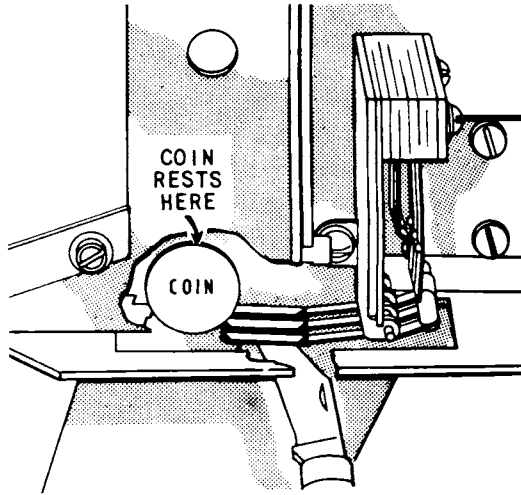

Figure 20. Coin Position
1. Insert a dime at top of the slug rejector while supporting the switch actuating lever with a knife blade. The coin rests on the lever as shown in Figure 20.